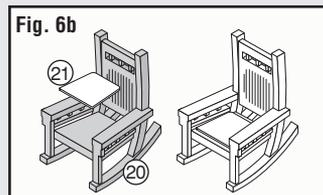

Fig. 6b
- Glue Rocking Chair Pad (21) to Rocking Chair (20) (Fig. 6b). Use white glue to glue Turf into Large Pots x2 (24) and Small Pot (25). (Fig. 6c)